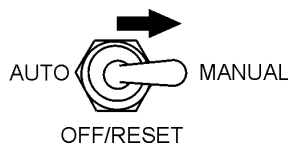

Figure 41. MPEC Control Switch (Manual Position)
3. Place the **MPEC control switch** in the **MANUAL** position to start the engine (Figure 41).